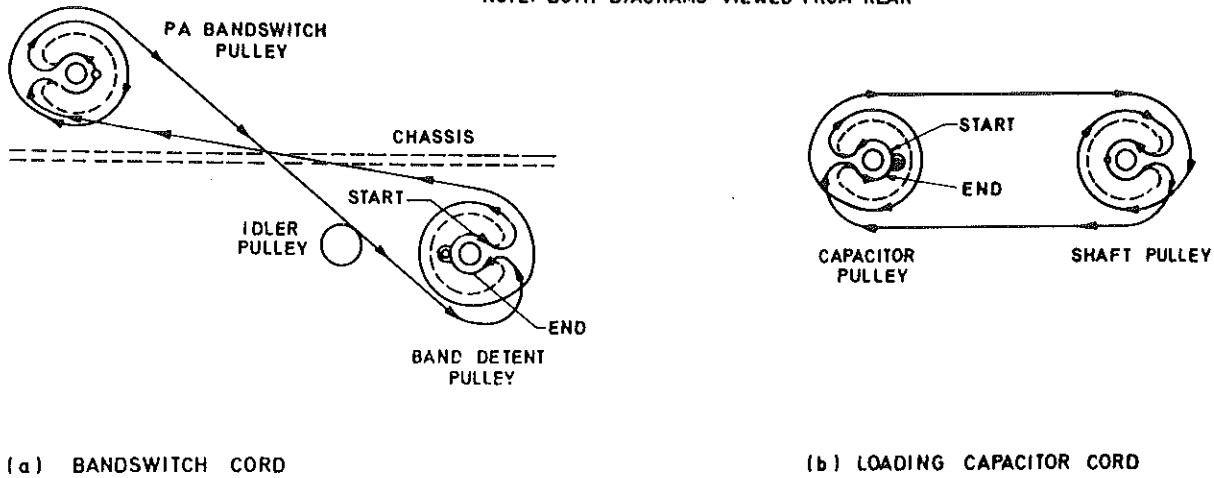

Fig. 3 Transceiver KWM-2A: dial cord stringing diagrams
40. The BAND switch wafers S7 and S8 and the INCR LOAD capacitor C151 in the power amplifier stage each employ a cord link in the mechanical coupling to their respective front panel controls, and instructions are given in para 41 and 42 for the replacement of frayed or broken cords. Cord stringing diagrams, viewed from the rear of the KWM-2A are provided in fig. 3. For these operations the KWM-2A must be removed from its cabinet and the a.c. mains disconnected.
- (1) Using a knife or small screwdriver, prize open the tabs and remove the broken or defective cord from the two band switch pulleys. Loosen the idler pulley so that it will not be in the way during re-stringing.
- (2) Set the BAND switch to position 1A and rotate the p.a. bandswitch pulley to the approximate position shown in fig. 3.
The band detent pulley may not be in precisely the position shown in fig. 3. Do not reposition this pulley but assume it to be in correct position during restringing.
(3) Replace the old cord with 1 yard of new cord in accordance with the band switch cord stringing diagram shown in fig. 3. Ensure that the turns of cord do not overlap on the pulleys. Pull the cord tight and tie it to the tab, and then fold the tab over to clamp the cord securely. Adjust and tighten the idler pulley to make the cord as taut as possible.
(4) Set the BAND switch to 3E and ensure that the rotor blades of S7 and S8 in the power amplifier cage are at positions 1 and 2 (the rotors on these switches are short-circuiting contacts connecting to two stator contacts). This can be determined by counting clockwise from the X-mark on the switch wafer. (The X-mark should be visible on the left-hand side of S8 as viewed from the front of the KWM-2A). If the switch rotors are not in the correct position, loosen the power amplifier band switch pulley on its shaft, rotate the switch rotors to their correct positions and re-tighten the pulley.
(5) Seal the cord knots with varnish and, when dry, trim the loose ends back no closer than one-quarter inch from the knot.
- (1) Using a knife or small screwdriver, prize open the tabs and remove the broken or defective cord from the two loading capacitor pulleys.
- (2) Set C151 to its fully meshed position (maximum capacitance) and the INCR LOAD control to position 10 on the P.A. TUNING logging scale.
- (3) Fit new cord in accordance with the loading capacitor cord string diagram shown in fig. 3. Ensure that the turns of cord do not overlap on the pulleys. Pull the cord tight and tie it to the tab, and then fold the tab over to clamp the cord securely. Adjust and tighten the idler pulley to make the cord as taut as possible.
- (4) Ensure that C151 and the INCR LOAD control are still set as in operation (2). If not, loosen the shaft pulley, mesh the capacitor plates manually and re-tighten the pulley.
- (5) Seal the cord knots with varnish and, when dry, trim the loose ends back no closer than one-quarter inch from the knot.